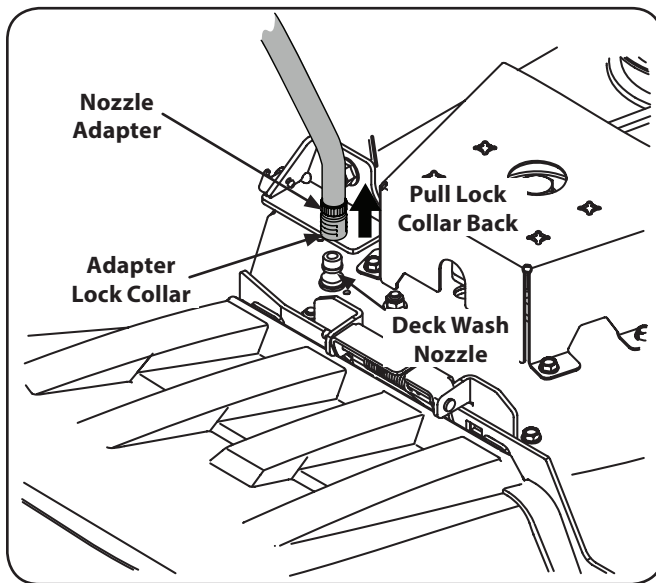

Figure 6-3
3. Pull back the lock collar of the nozzle adapter and push the adapter onto one of the deck wash nozzles at either end of the mower deck. Release the lock collar to lock the adapter on the nozzle. See Figure 6-3.